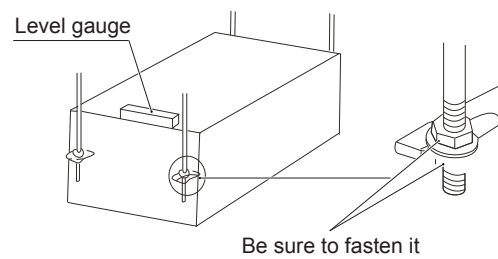

Fig.5-7
3. Use the level gauge to confirm the horizontality of the unit.(Prevent slanting towards the non-drainage side; slanting slightly towards the drainage side is preferable) See Fig.5-7.